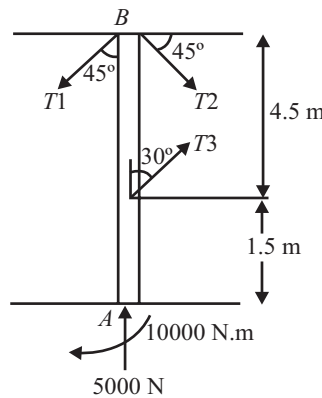

Fig. 7.24
Q. 22: A vertical pole is anchored in a cement foundation. Three wires are attached to the pole as shown in fig. 7.24. If the reaction at the point. A consist of an upward vertical of 5000 N and a moment of 10,000 N-m as shown, find the tension in wire. (May 00-01(B.P.))